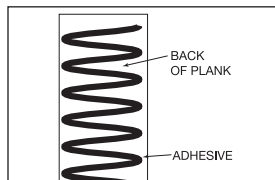

Figure 9
- If the Engineered Hardwood Flooring plank is wider than 5 in. (12.7 cm), it must be installed applying a 1/4 in. serpentine bead of premium construction adhesive to the back of each board. (Figure 9).